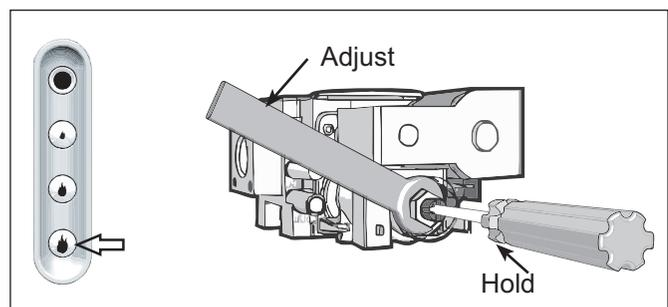

FIG 20
- Switch the control buttons to 'High Flame' position. Wait for heater to switch to 'BOOST' setting (time delay on startup). Retain screwdriver in position and using a spanner adjust the outer nut on the control to give a high pressure reading (refer to spec table on page 8). **(Turn clockwise to increase pressure and anticlockwise to decrease pressure)**. Refer **FIG 20**.